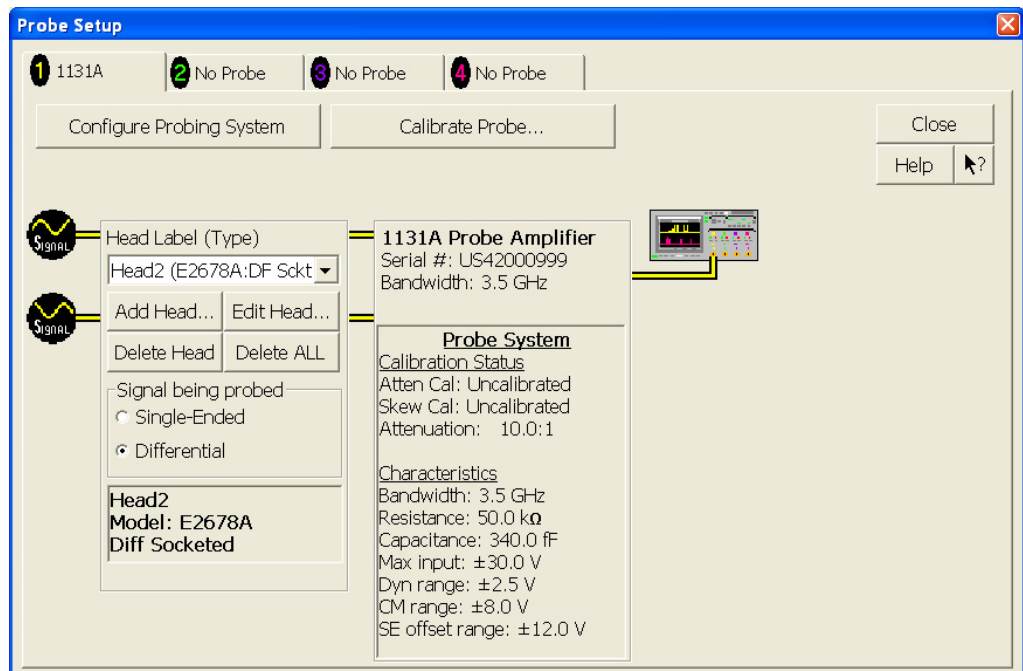

Figure 50 Calibrating a Probe.
- 3 Referring to Figure 50 below, perform the following steps: